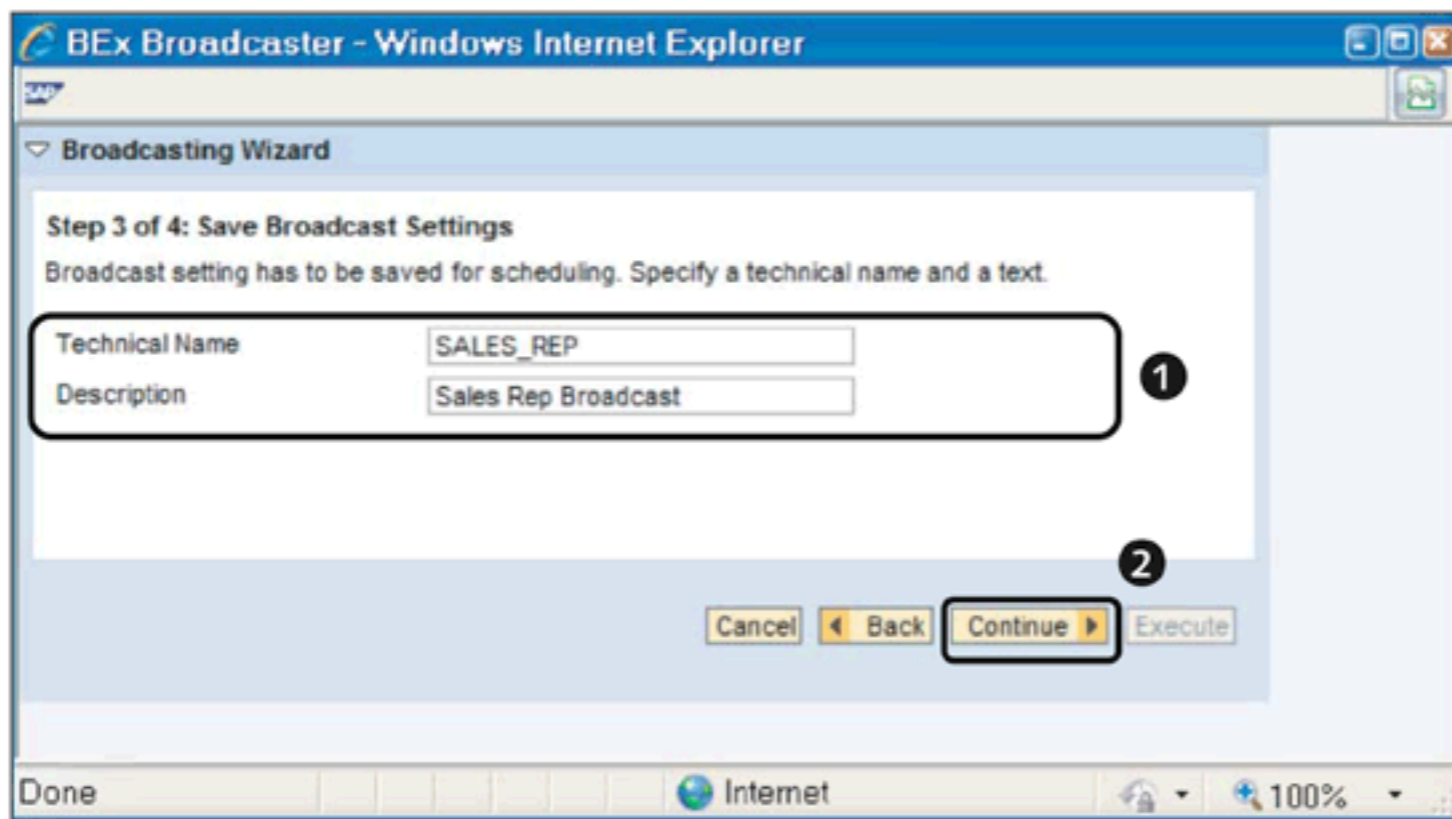

Figure 10.64 BEx Broadcaster: Save Broadcast Settings
Save the broadcasting settings by providing a TECHNICAL NAME and DESCRIPTION (❶ of Figure 10.64), and click on CONTINUE to proceed to the next screen (❷).